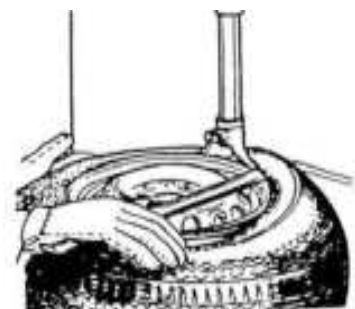

Fig 6
3) Insert the lifting lever between the tyre bead and the front section of the mounting head, and move the tyre above the mounting head as shown as Fig 6.
With the lifting lever held in position shown as Fig 6, rotate the turntable in a clockwise direction by fully depressing the reverse pedal. Continue until the tyre is completely separated from the wheel rim.
Note: The tyre can be slid out easily from the mounting head due to hardness. In order to prevent it, with the lifting lever held in position shown as Fig 6, rotate the turntable about 1~2 cm in anti-clockwise direction before rotating in clockwise direction.